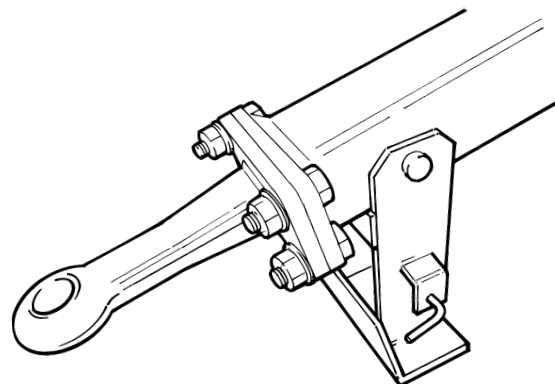

Fig 3
**ENSURE THAT DRAWBAR STAND SUPPORTS DRAWBAR ONLY AND NOT WEIGHT OF MACHINE, *Fig 3*.**